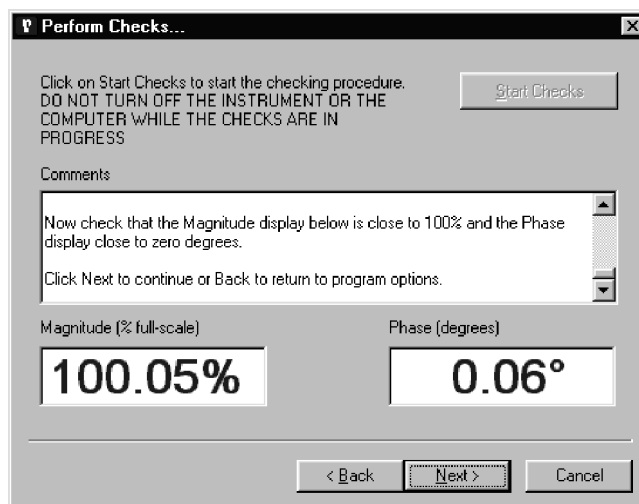

Figure 2-6, Initial Checks Procedure, Perform Checks Screen – Outputs Displayed
- 13) Once communications have been established the Comments section shows a list of commands being sent to the FRD100 which set it to a defined state. Once this has happened, the signal magnitude and reference phase are shown in the lower section of the display, as shown in figure 2-6.